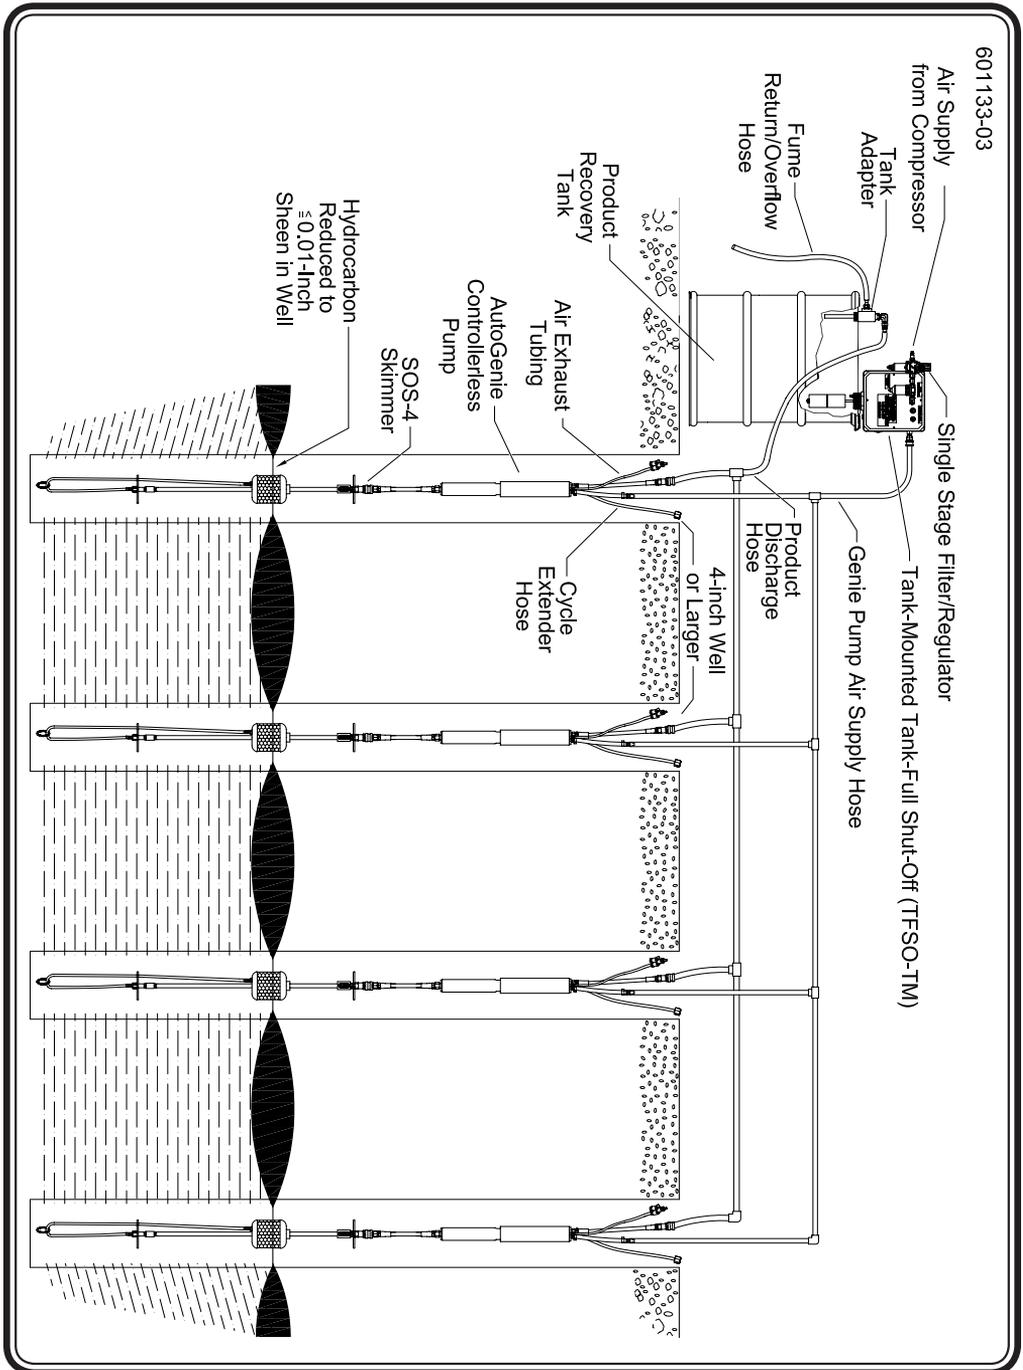

Figure 5 - Multi-Well AutoGenie System with Tank-Mount TFSO System
- Multi-well systems (See Figure 5)